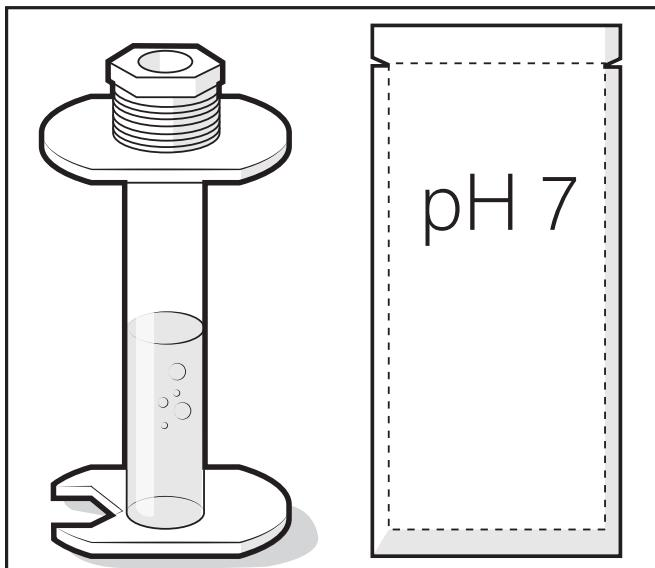

Figure 5. Fill storage tube halfway
4. Fill the storage tube to the halfway point with pH 7 buffer solution, see Figure 5.